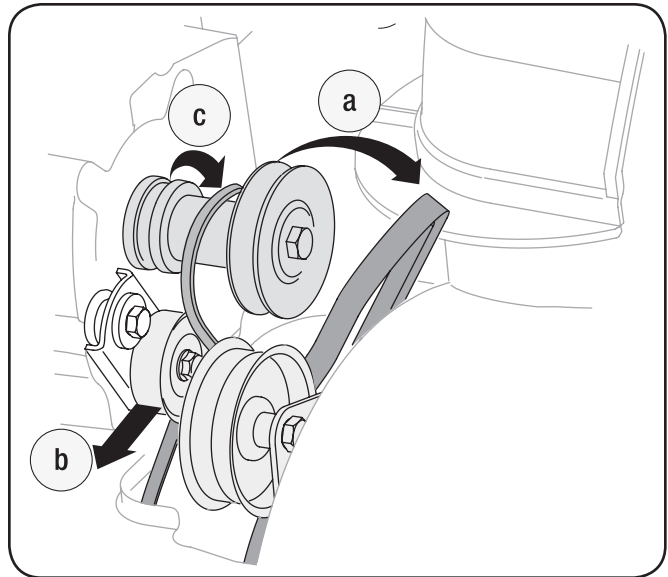

Figure 7-6
3. Remove the belt as follows. See Fig. 7-6: